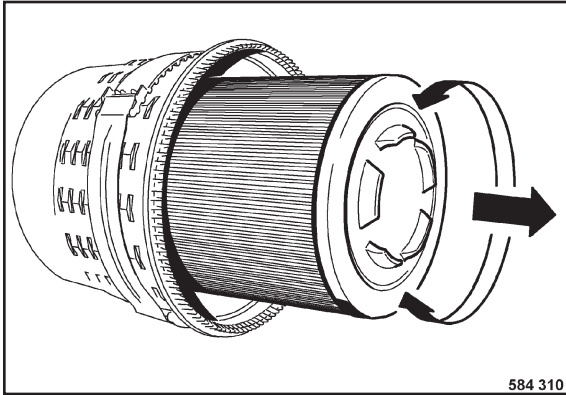

Fig. 162
- Pull out the main filter element (Fig. 162) with light turning movements.